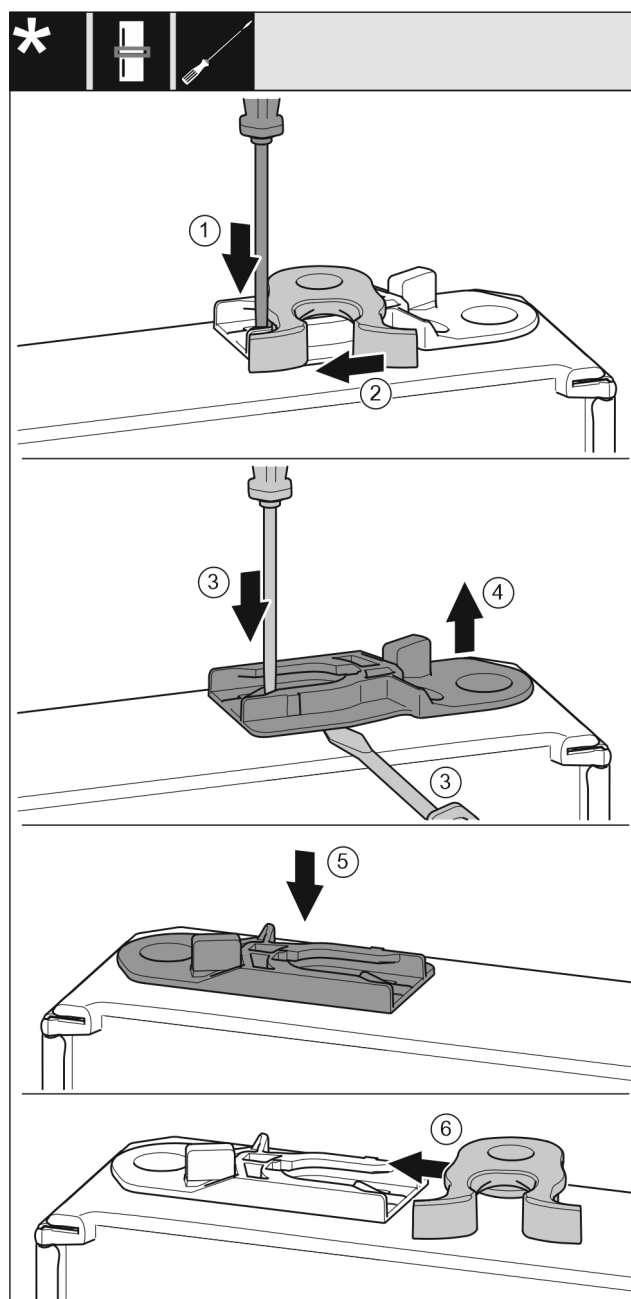

Fig. 21
- Use a slotted screwdriver to push the tab Fig. 21 (1) downward.
- Pull the closing hook Fig. 21 (2) out of the guide on the other side.
- Pull out the guide bushing Fig. 21 (3, 4): Press the tab with the slotted screwdriver while running the slotted screwdriver under the guide bushing at the same time.
- Insert the guide bushing Fig. 21 (5) supplied in the scope of delivery on the other side of the housing.
- Push the closing hook Fig. 21 (6) into the guide.